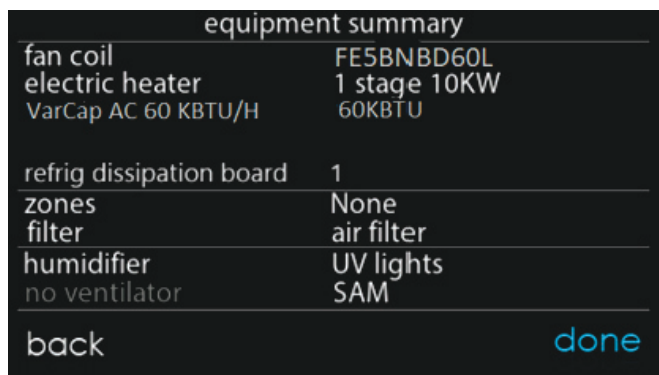

Fig. 11 – Equipment Summary Screen
4. The Evolution™ Connex™ System Control will advance through the remaining learning processes including the setup of accessories such as filter type, UV light, and humidifier. Upon completion of the setup screens, the equipment summary screen will be presented (Fig. 11). Verify the correct equipment is shown on this screen. Next an airflow verification test is executed before returning to the main screen.